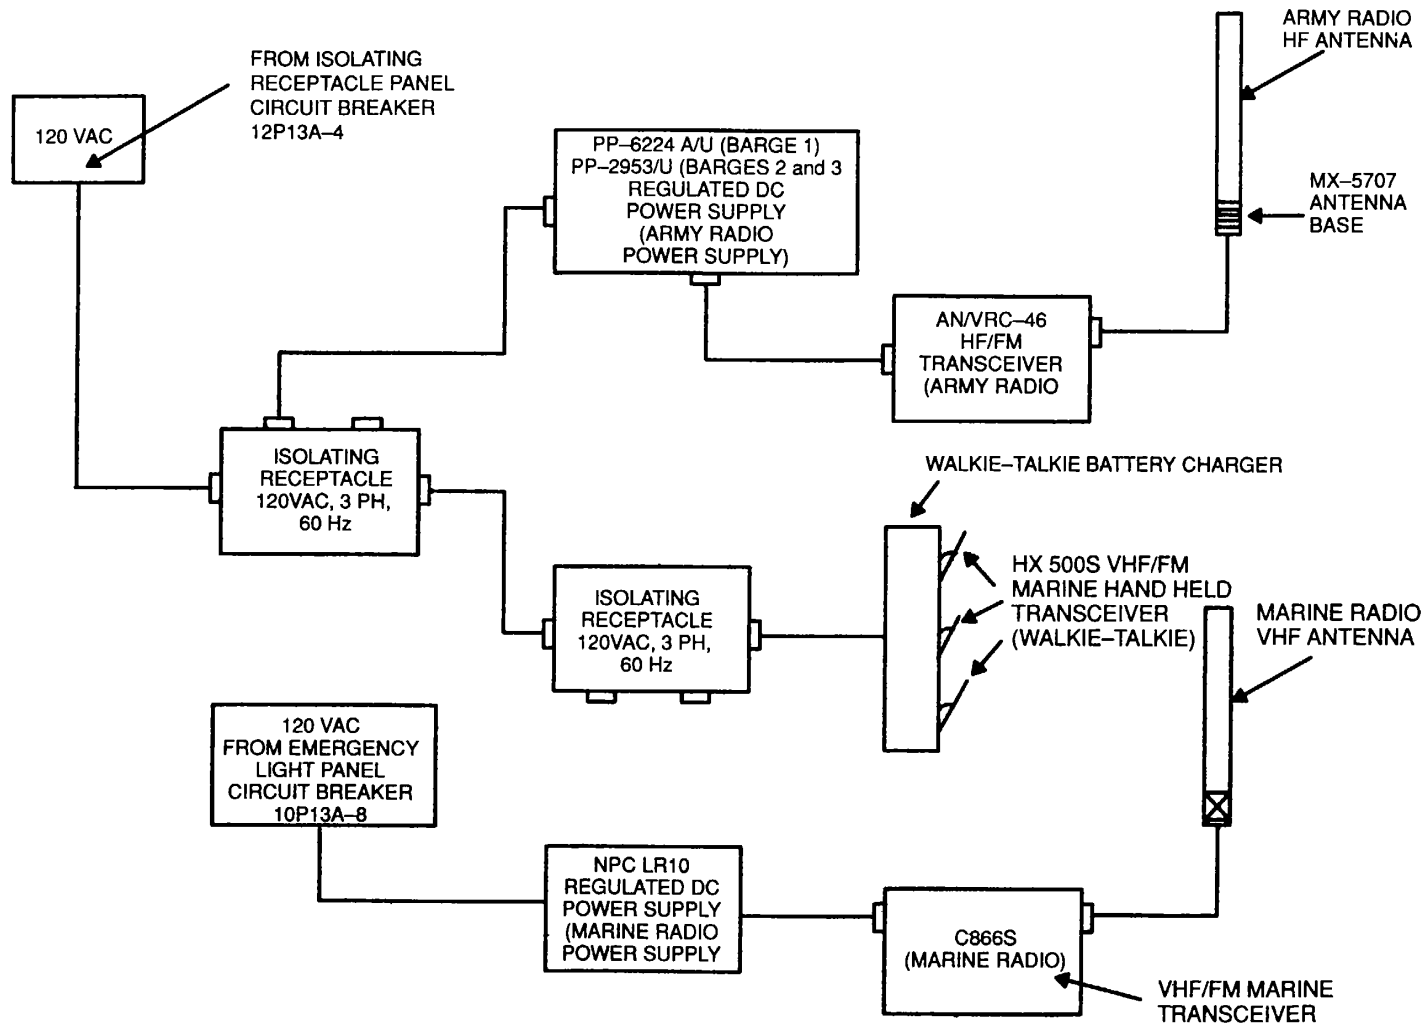
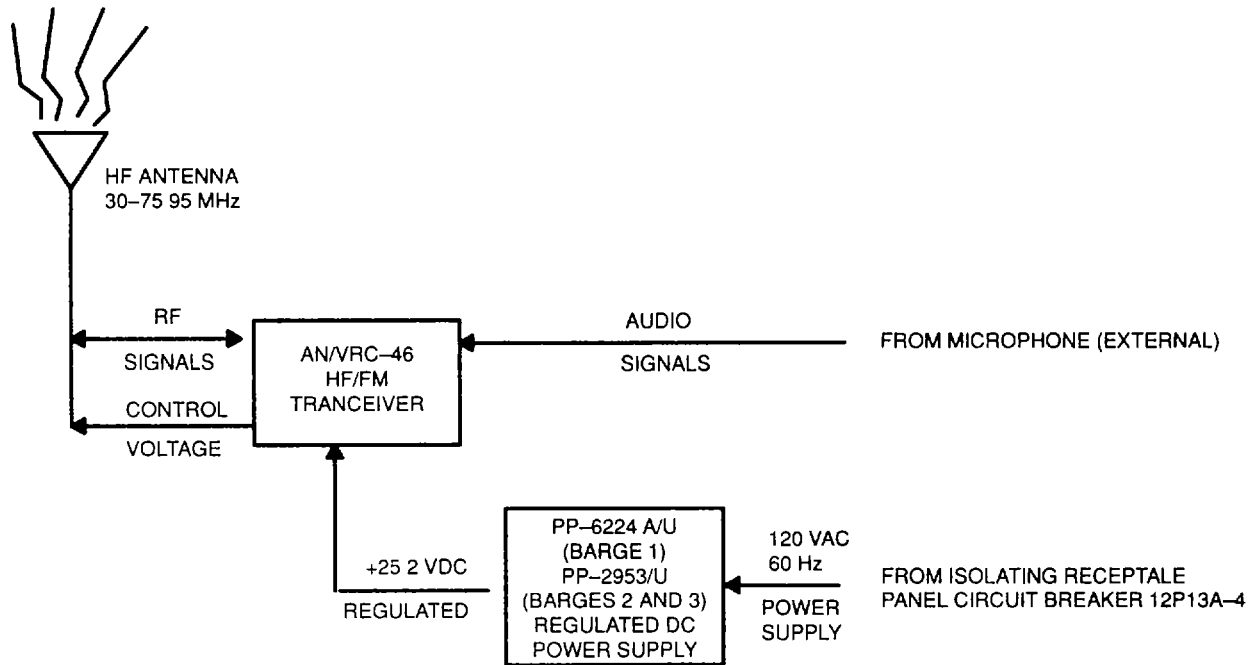

Figure 2-1. Radio Communications System Major Components
Figure 2-2. Army Radio Equipment Interface
**2-1 Description.** The radio communications system for Water Purification Barges includes a US Army tactical radio ANNRC-46, two commercial marine radios, and three walkie-talkies. Each is designed to provide radio communications with stations equipped with similar type radios operating on matching frequencies. This system, shown in Figure 2-1, consists of the major components listed in Table 2-1. Individual radio equipment is shown in Figures 2-2 thru 2-4. Installation is shown on drawings listed in Appendix A. Additional information is contained in manufacturers' service manuals/instructions listed in Section VI and US Army technical manuals listed in Appendix A.